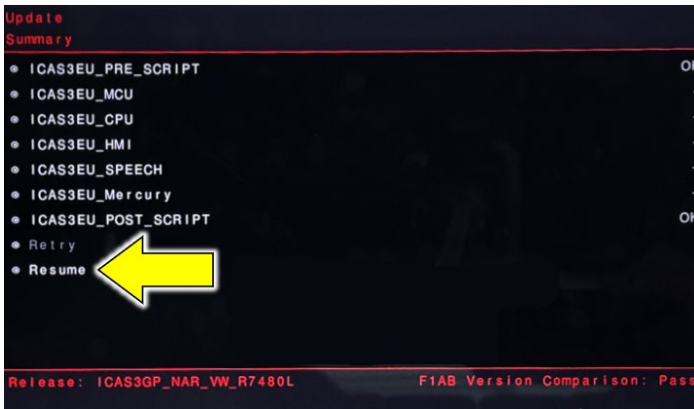

Figure 11: Resume button
- If the result display “OK” is shown after every application (see figure 11), continue by pressing “Resume” (see figure 11). If “n.OK” appears after one or several applications, the update must be repeated by pressing “Retry” (see figure 11).